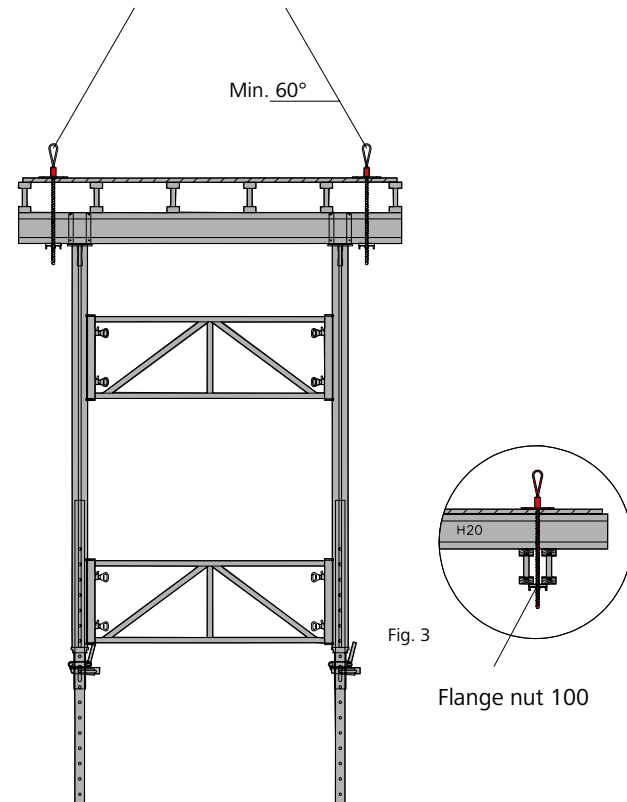

Fig. 2
- By securing them with the flange nut 100 (Figures 2 and 3)
If a forked prop head MEP is not used, the crane hanger MEP must be mounted outside of the forked prop head. In this case, the construction must be secured with a flange screw 18 (Figures 2 and 3).